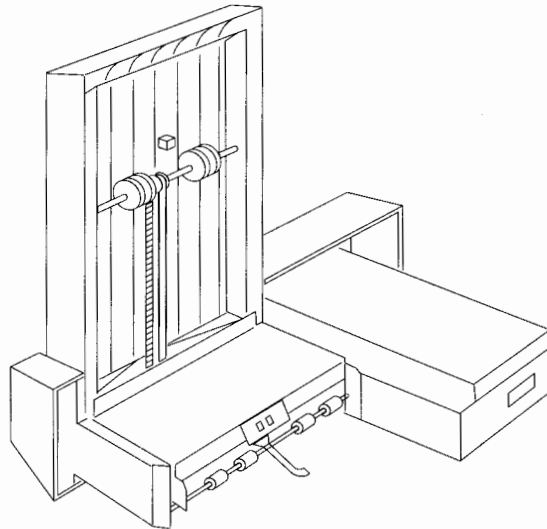

Figure 4-2. Checking the Sensor Arm
3. Open the stacker's door and look inside to check that the stacker's paper sensor arm, as shown in Figure 4-2, is floating freely on top of the paper stack and has not been damaged or broken.